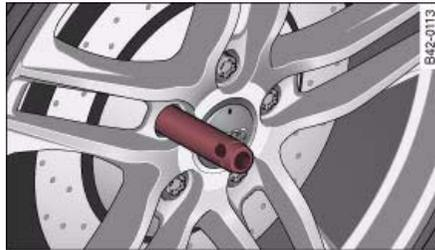

Fig. 130 Changing a wheel: Mounting pin in wheel bolt hole nearest to the top
- Screw in the **mounting pin** (provided in the vehicle's tool kit) by hand in place of the wheel bolt ⇒ fig. 130.